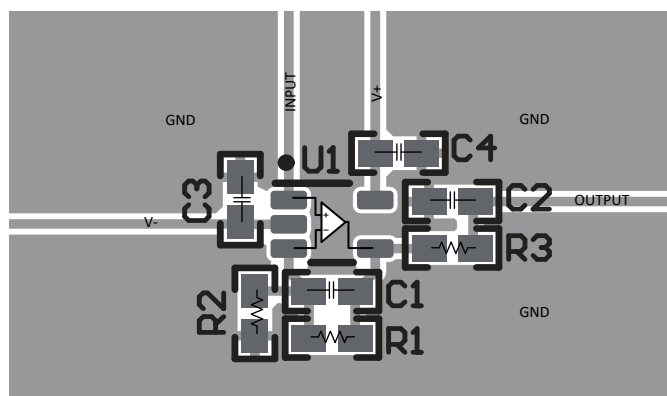

Figure 7-4. Operational Amplifier Board Layout for Noninverting Configuration - SC70 (DCK) Package
- Place the external components as close to the device as possible. As shown in Figure 7-4, keeping RF and RG close to the inverting input minimizes parasitic capacitance.